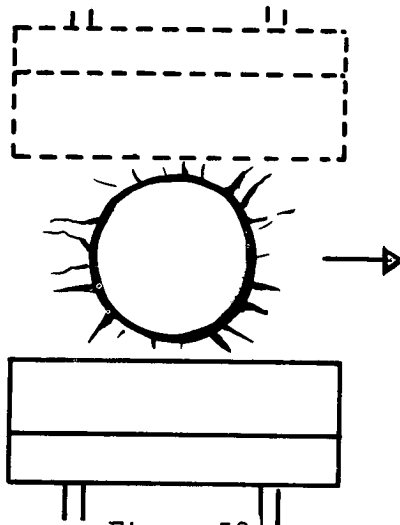

Figure 52
1. Take cuts with the bucket on the two sides of the trunk parallel to the line in which the tree is to fall, Figure 52.